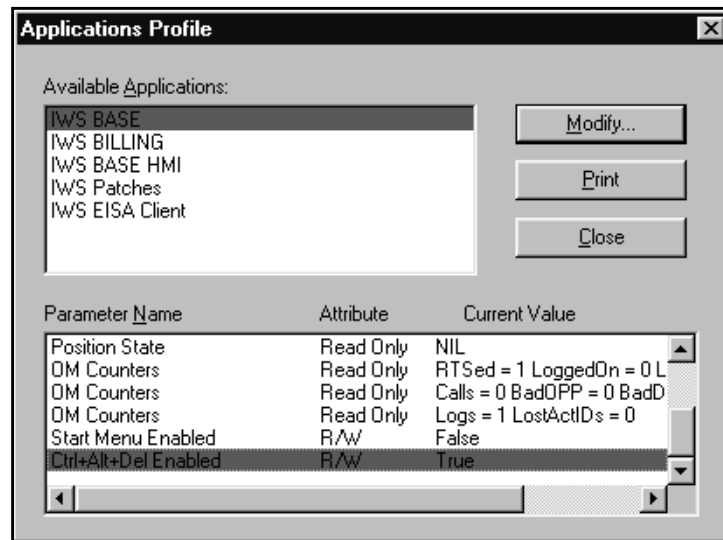

FIGURE 26. Ctrl+Alt+Esc Enabled
- a. Use the down arrow key to highlight the name IWS BASE in the Available Applications box. An example window is shown in Figure 26.
With Ctrl+Alt+Esc Enabled set to true as shown in Figure 26, the Ctrl+Alt+Del command at the target position can be used to open a Close